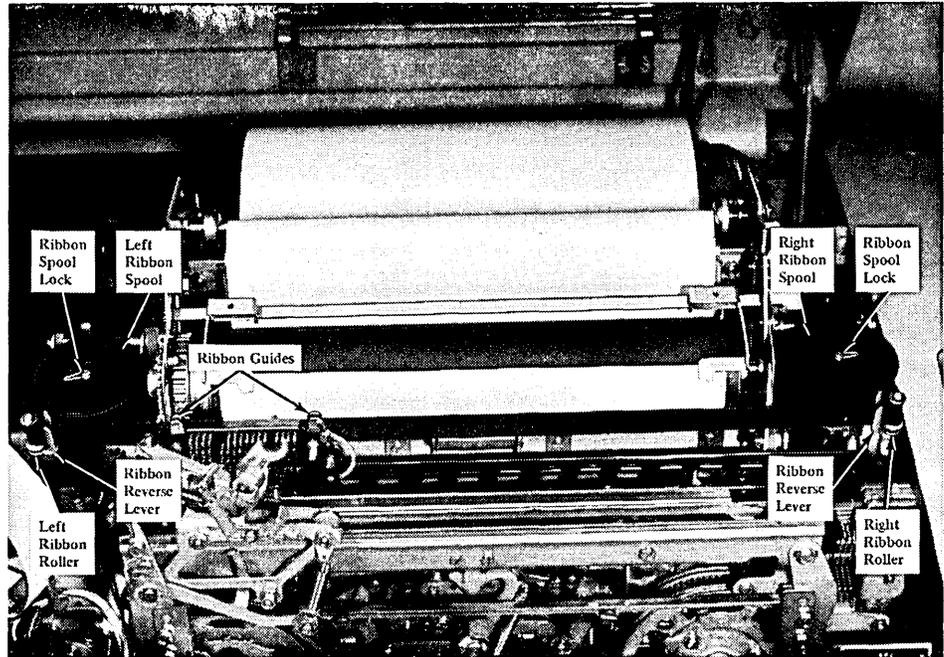

Figure 16. Type 35 ASR Ribbon Controls
3. Snap up the ribbon-spool locks (Figure 16) and lift both spools from their shafts.